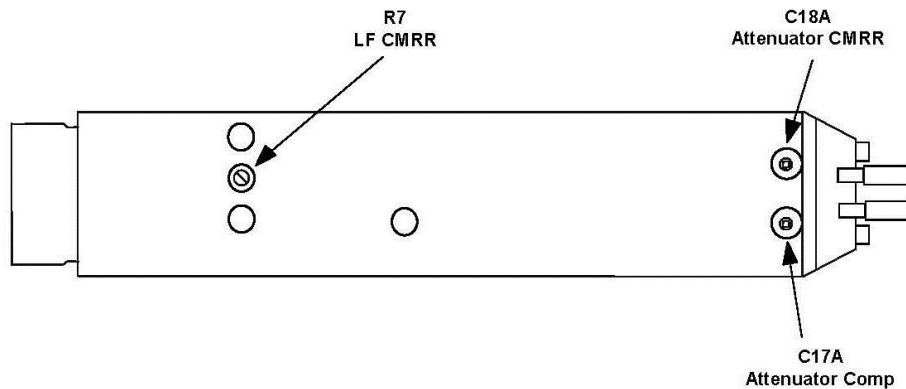

Figure 11,. Probe Tip Adjustment Locations
11. Adjust **LF CMRR** (R7) for minimum amplitude. (See Figure 11 for location.)
7. Using the 0.25 in. square adjustment tool, adjust Attenuator Comp (C17A) for a flat top waveform. (See Figure 11 for adjustment location.)